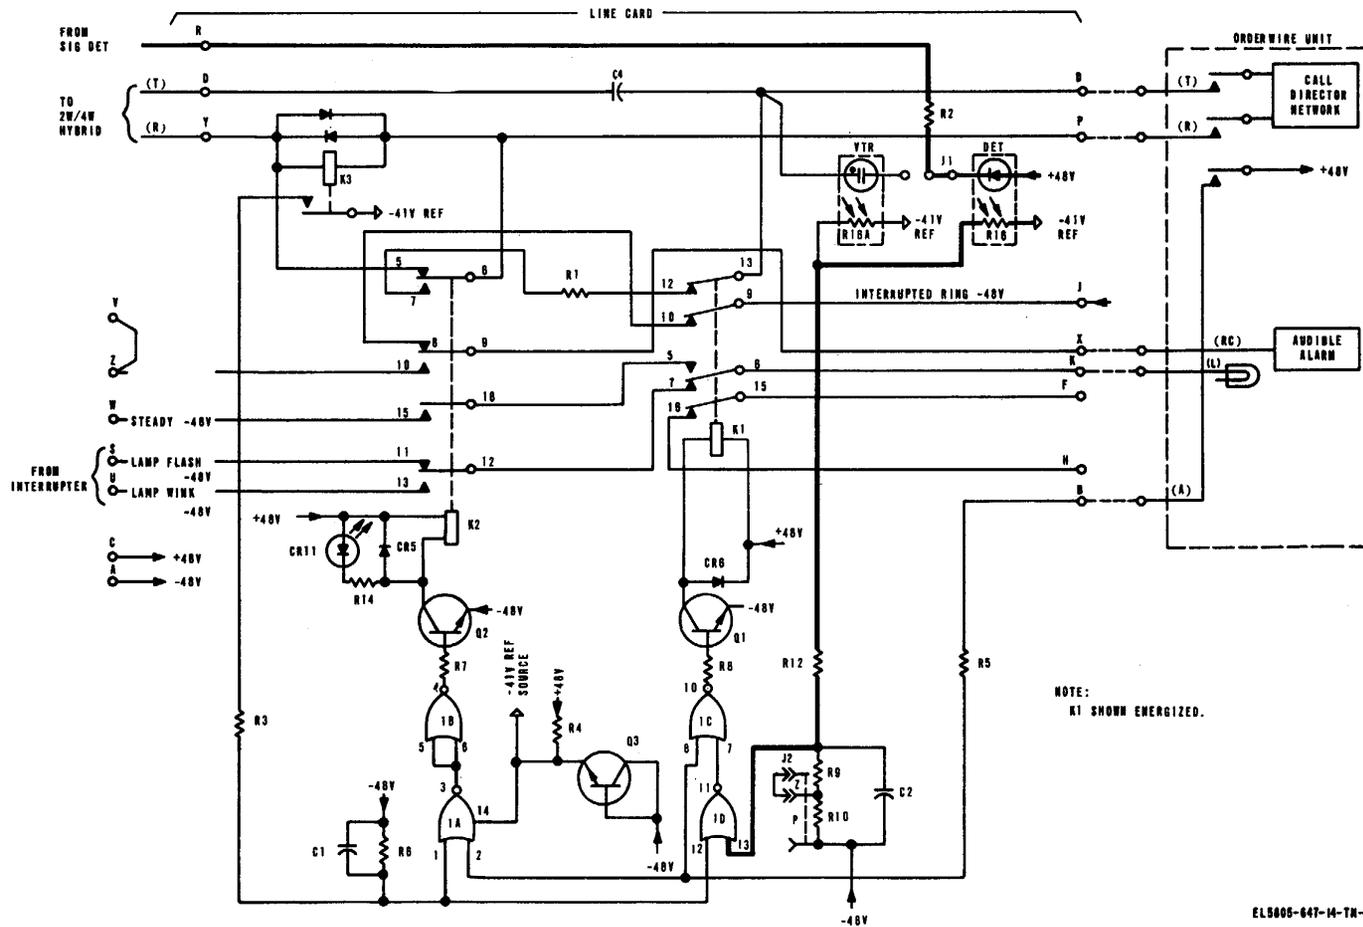

Figure 4-8. DTMF and E & M incoming ring, functional diagram.
(2) DC incoming call DTMF on E&M (fig. 4-8).